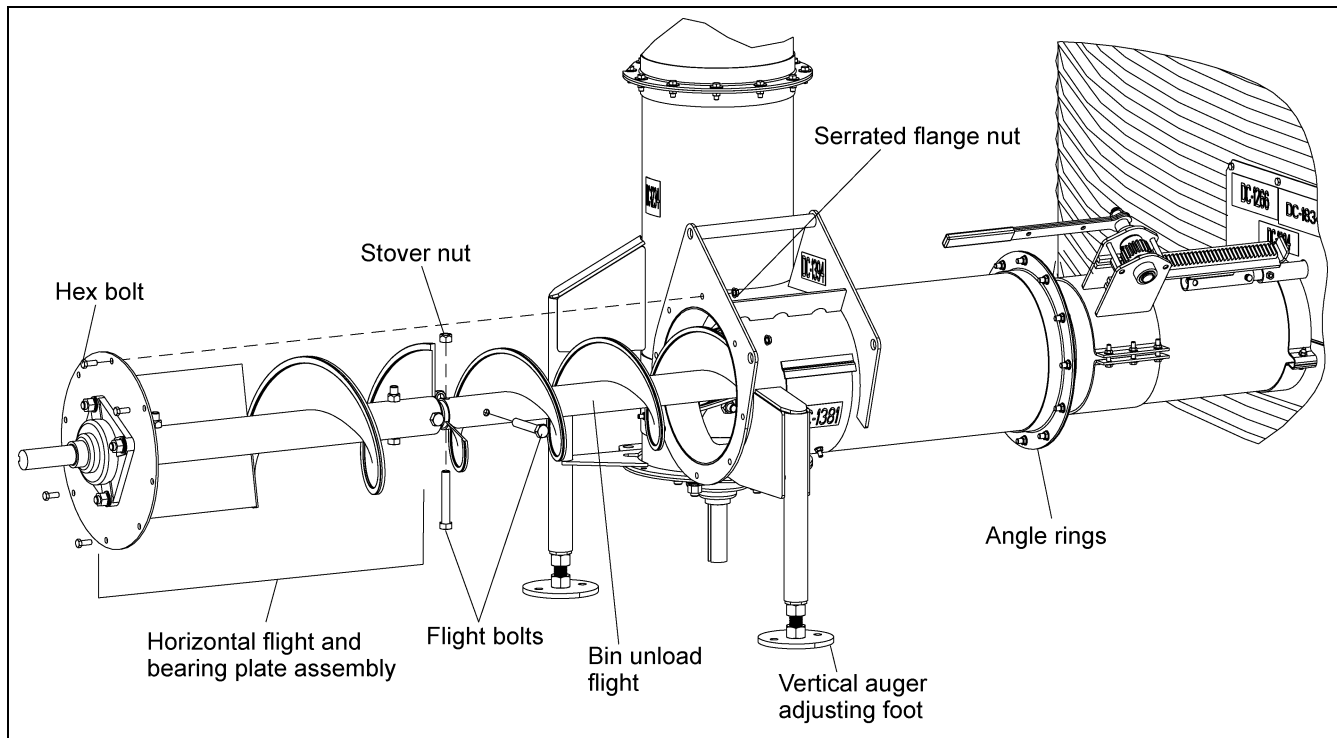

Figure 3D
- Attach the *horizontal head flight* and *bearing plate assembly* with the appropriate hex bolts and stover nuts. (See Figure 3D.)